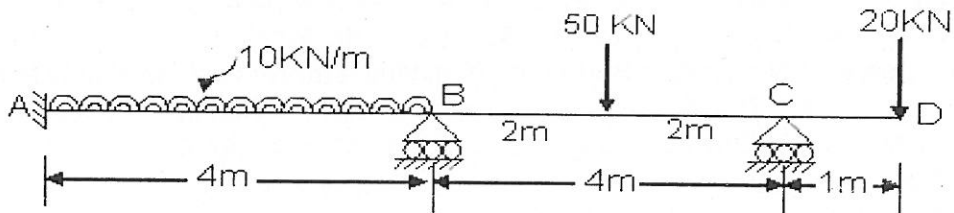

Fig.2
Q.6 Analyze an overhang beam loaded as shown in fig.2, by using stiffness matrix method. Also draw B.M.D. Take $E = 200 \text{ GPa}$ & $I = 2 \times 10^{-4} \text{ m}^4$ 16